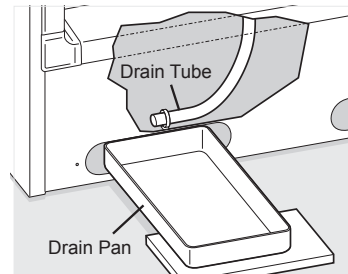

Figure 1
- **On upright models with a defrost drain** (Figure 1), remove drain plug on the inside floor of the freezer by pulling straight out. To access external drain tube on models with a base panel, first remove the two screws from the base panel. Locate the drain tube near the left center under the freezer. Place a shallow pan under the drain tube. Defrost water will drain out. Check pan occasionally so water does not overflow. Replace the drain plug when defrosting and cleaning are completed. If the drain is left open, warm air may enter the freezer.